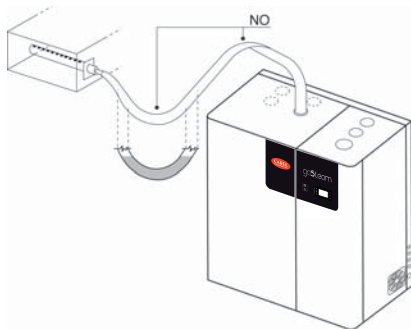

Fig. 4.c
2. for short paths (less than 2 m (80 inch)), curves with a minimum radius of 300 mm (12 inch), followed by a rising section with a slope of no less than 20° (see Fig. 4.e).